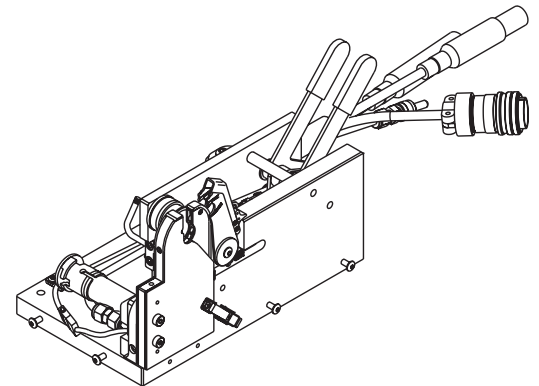

Figure 57 *Reinstalling the Side Plates*
18. Move the handles from the tool change to the not locked/closed position. See Figure 57.